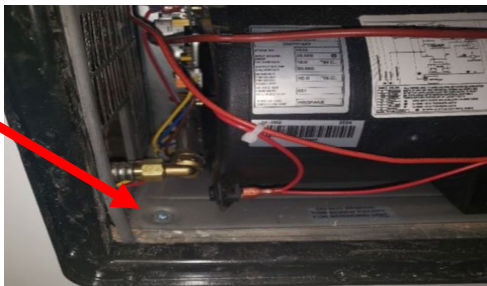
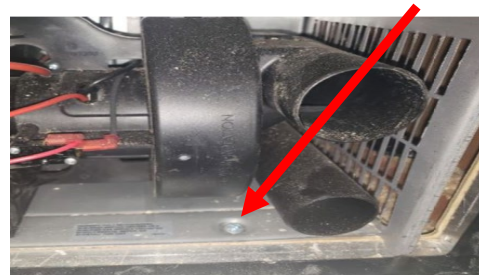

Figure 1
Figure 2
2. Remove the two (2) corner screws and discard. See Figure 1 and Figure 2.